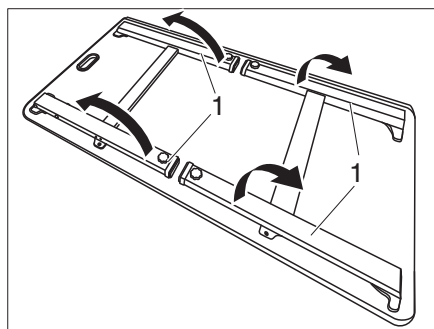
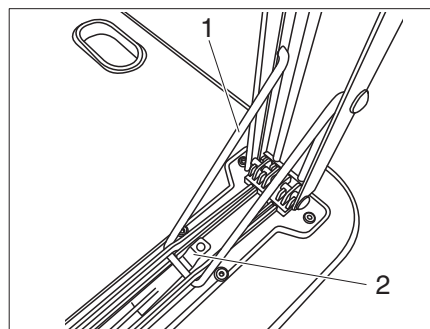

Fig. 32 Underside of the table
Fig. 33 Lock
- Lift all table feet (Fig. 32,1), until the bar (Fig. 33,1) locks into the latch.
- Press on the catch (Fig. 33,2) and push the table feet downwards (Fig. 32,1).